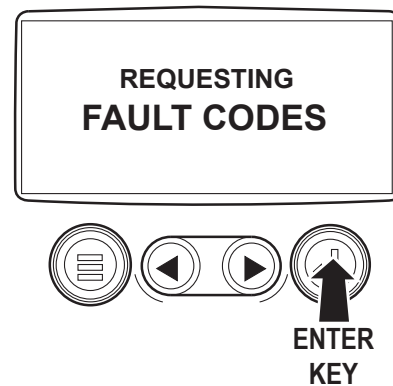

Figure 12 - Access Stored Fault Codes
3. Touch the Enter Key to view any stored fault codes. The display will respond by presenting a "Requesting Fault Codes" message while the system retrieves the codes. See Figure 12.